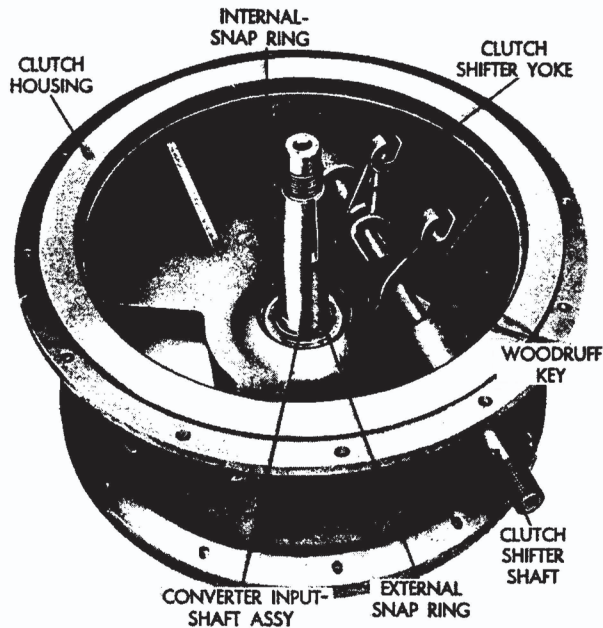

Figure 10-28. Clutch Housing Removal
6. Using a 2 3/8-inch wrench, remove nut (2) and lockwasher (3).
7. Remove the clutch assembly and the key from the shaft (refer to figure 10-28).
yoke must be engaged with the clutch release bearing as the clutch assembly is lowered onto shaft (figure 10-28).